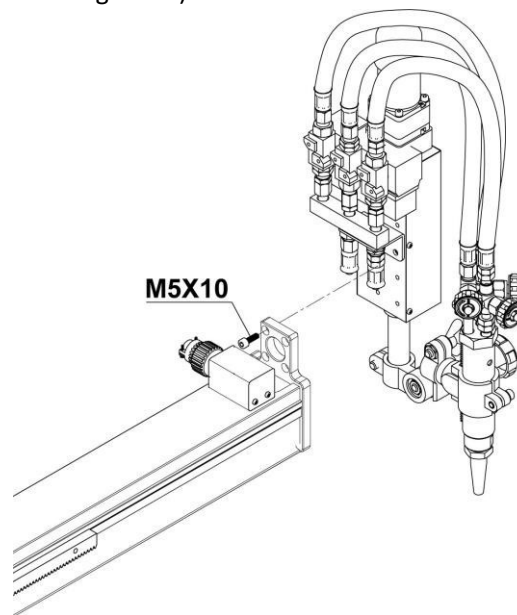

Figure 4
1. Connect the lifting device assembly with the transverse guide rail, making them be tightened by the four M5 × 10 Allen screws. (Shown in Figures 4)